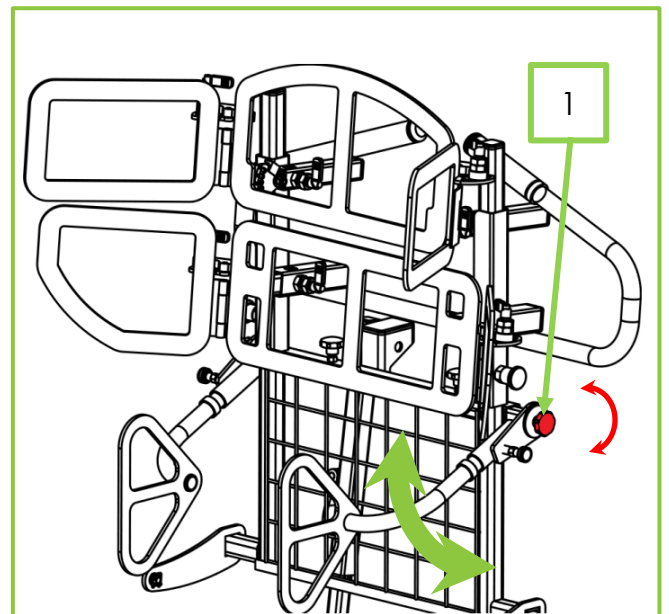

Figure 26
2. **Angle of the external laterals** – turn the thumb screws shown in red (Fig 26, Item 1- there is a second screw hidden from view on the other side of the backrest) to release the external laterals. Move the arm away from the sliding bar and adjust the angle as required. Then locate the arm on to the sliding bar again and tighten the thumb screws.